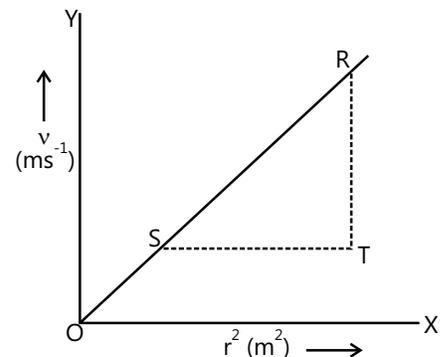

Figure 27.13
- Take a wide bore tube of transparent glass or acrylic (of diameter about 4cm and of length approximately 1.25m). Fit a rubber stopper at one end of the tube and ensure that it is air-tight. Fill it with the given transparent viscous liquid (say glycerine). Fix the tube vertically in the clamp stand as shown in the Fig 27.13. Ensure that there are no air bubbles inside the viscous liquid in the wide bore tube.
- Put three rubber bands A, B, and C around the wide bore tube, thus dividing it into four portions (Fig. 27.13), such that  $AB=BC$ , each about 30cm. The rubber band A should be around 40cm below the mouth of the wide bore tube (length sufficient to allow the ball to attain terminal velocity).